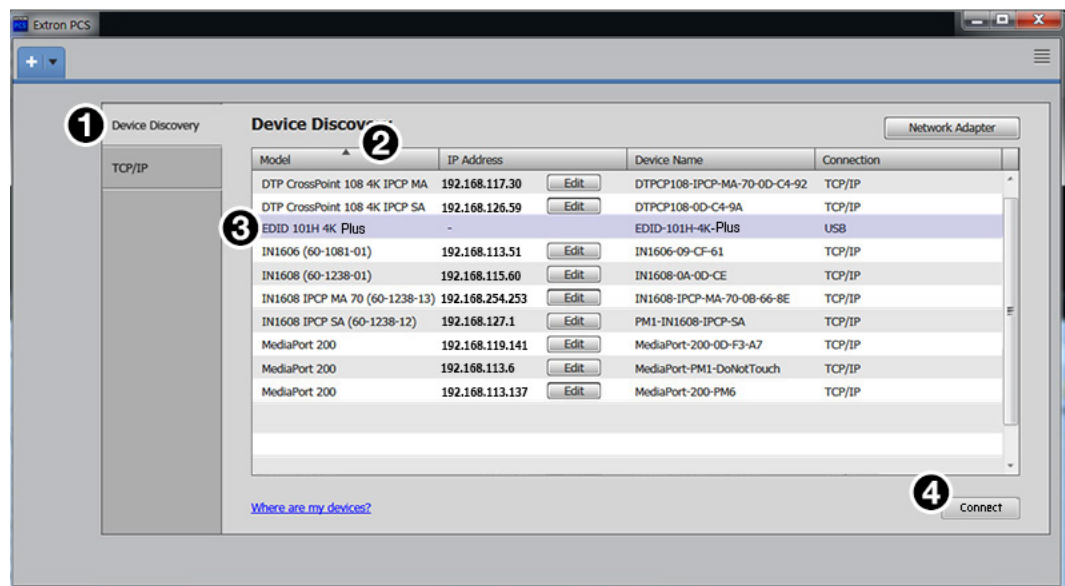

Figure 9. Device Discovery Panel
- The EDID 101H 4K PLUS supports USB connection only. However, all devices located and supported by PCS are listed in the **Device Discovery** panel (see figure 9).
1. Click the **Device Discovery** tab (see figure 9, ①).
2. Click the desired column heading (②) to sort the desired category (**Model**, **IP Address**, **Device Name** and **Connection**) in ascending or descending order.